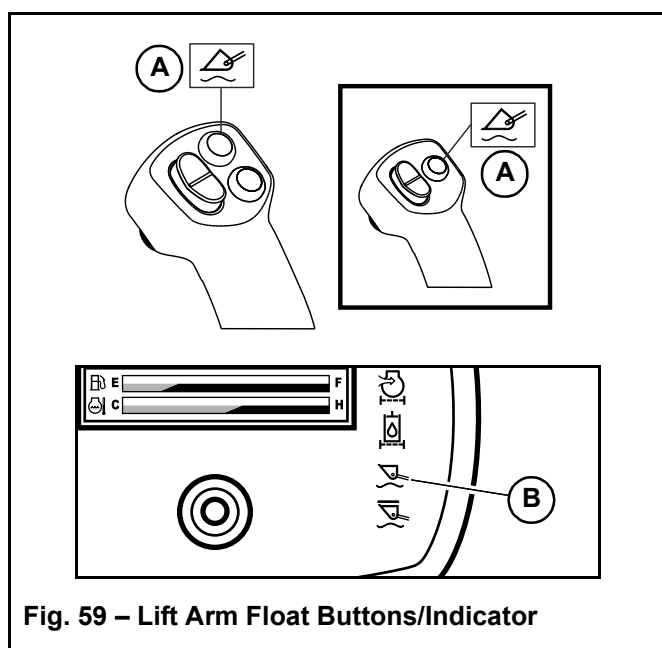

Fig. 59 – Lift Arm Float Buttons/Indicator
2. Press button (A, Fig. 59) on the right joystick to activate float:
- Press button (A, Fig. 59) momentarily to apply float momentarily.
- Press and hold button (A, Fig. 59) on the right joystick for 5 seconds to activate continuous float.
**NOTE:** Indicator (B) in the multi-function display is lit when the lift arm float is activated. Indicator (B) blinks when momentary float is activated and is continuously lit when continuous float is activated.